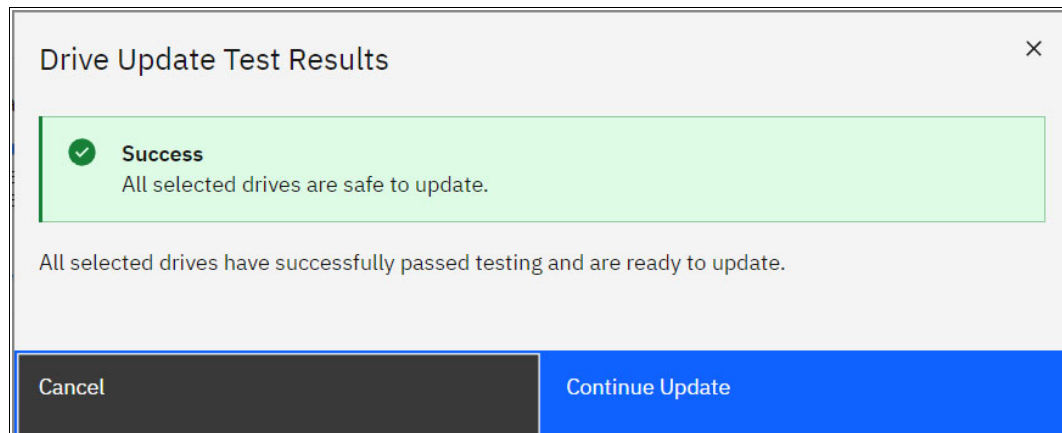

Figure 10-14 Drive update test result
3. Click **Next** to start the upgrade test utility. An example of the result is shown in Figure 10-14.